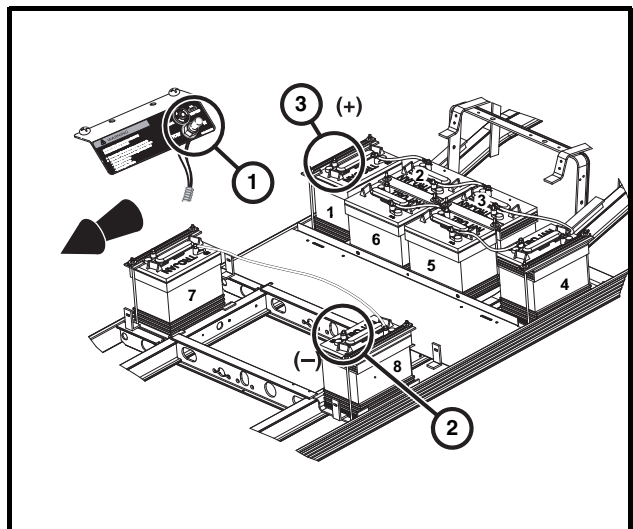

Figure 1-8 Villager 6 and 8 IQ Plus Battery Configuration
To avoid unintentionally starting the vehicle, disconnect the batteries as shown (Figure 1-1, Page 1-4 thru Figure 1-8, Page 1-5).
3. Disconnect the batteries, negative (–) cable first, as shown (**Figure 1-1 through Figure 1-8**).